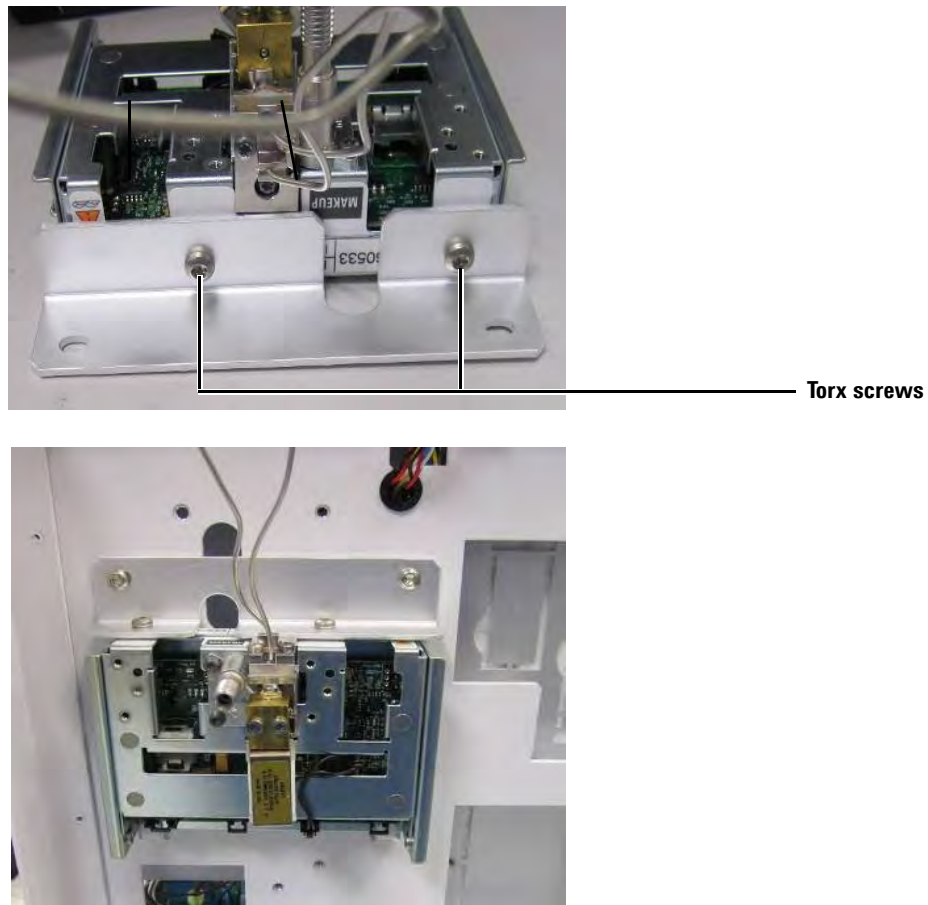

Figure 18 Assemble the third EPC frame to the EPC module
- 2 Install the third EPC frame onto the EPC module. Remove the two T-20 Torx screws, place the frame onto the EPC module as shown in Figure 18, and secure using the same two screws.